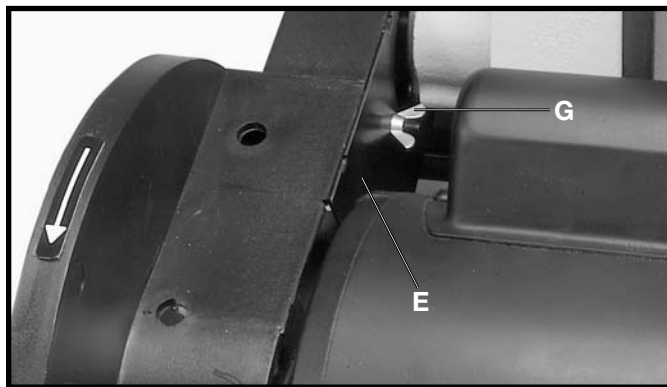
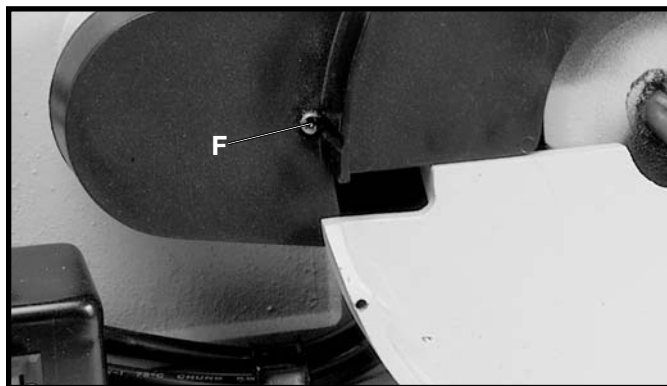

Fig. 6
Fig. 7
3. Assemble the inside guard (E) Fig. 6, to the guard assembly using a M4x.07x45mm cheese head screw (F) Fig. 7, and M4x.07 wing nut (G) Fig. 6, as shown.